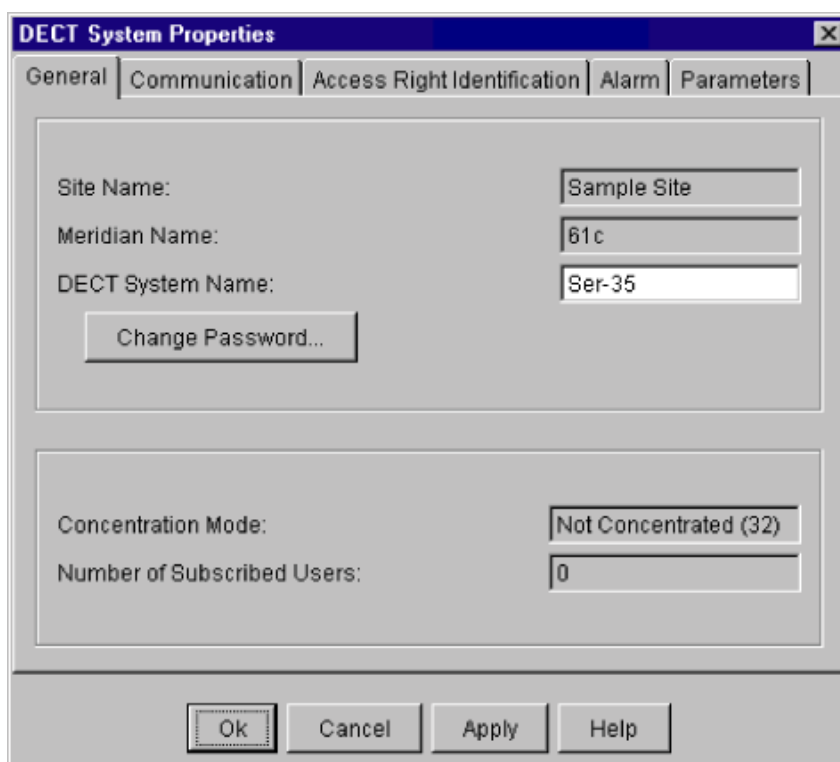

Figure 150: DMC DECT Manager - DECT System Properties window
3. Enter the DECT System Name on the General tab of the DMC DECT Manager - DECT System Properties window. See Figure 150: DMC DECT Manager - DECT System Properties window on page 219.